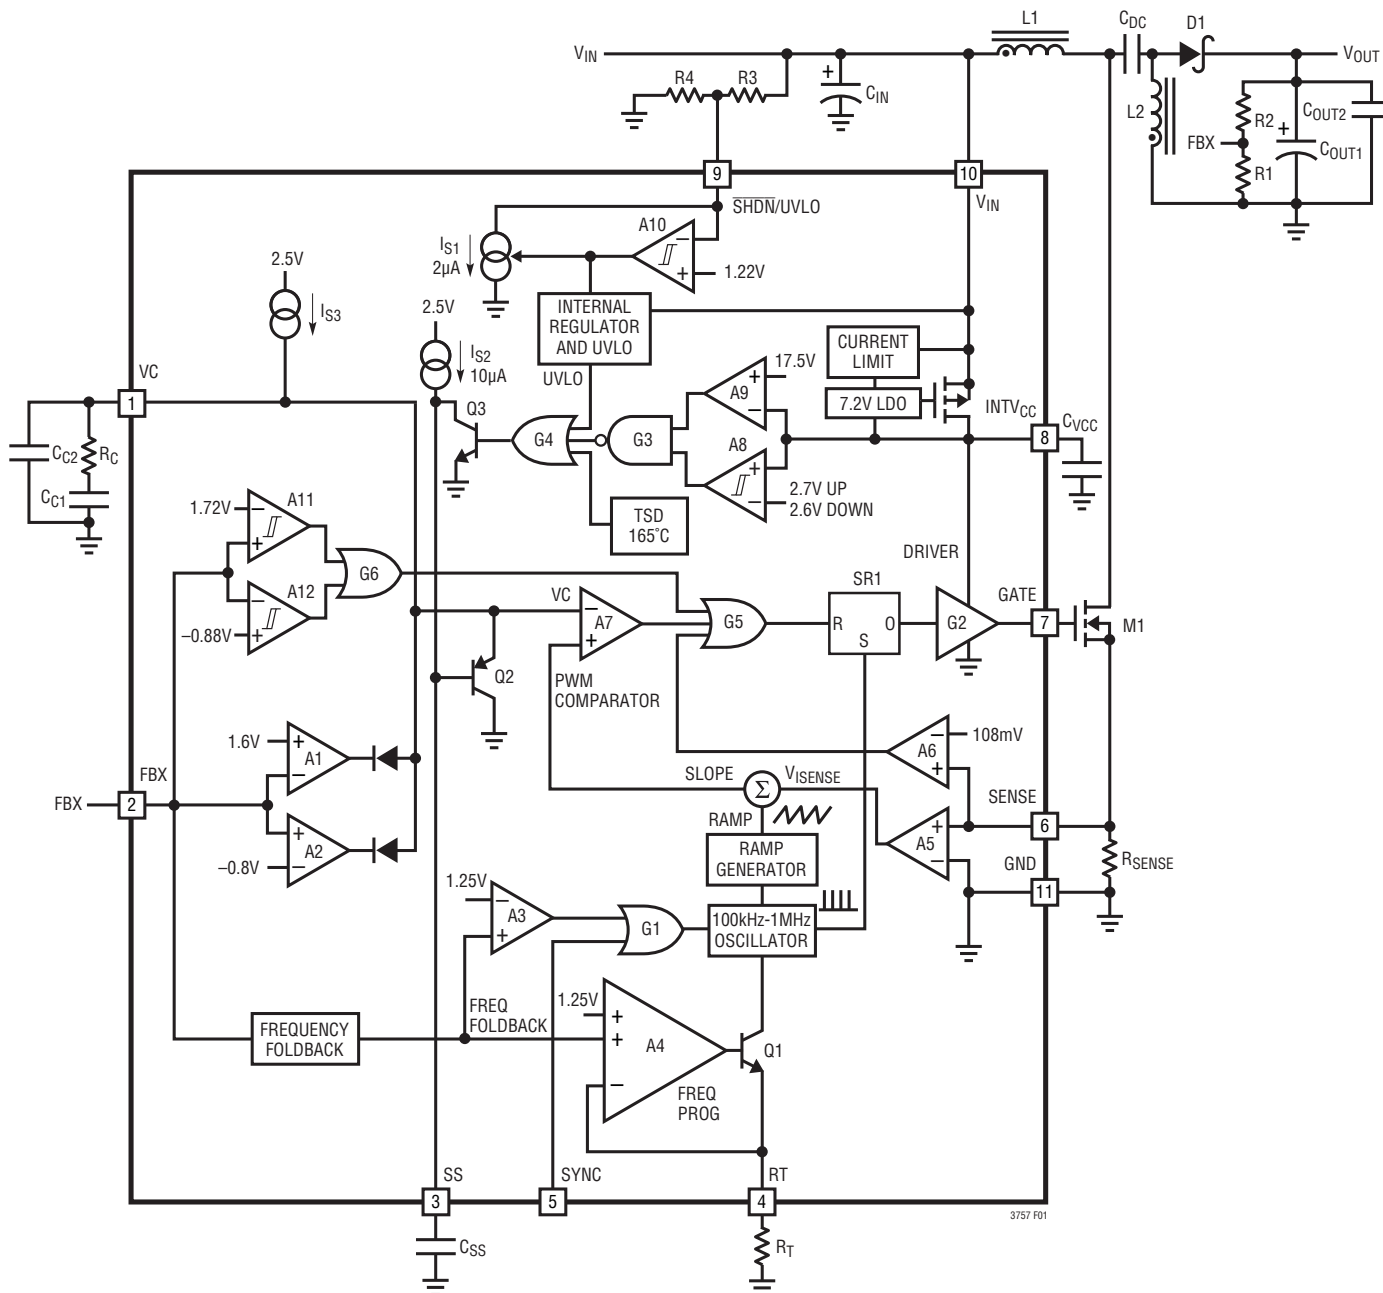

Figure 1. LT3757 Block Diagram Working as a SEPIC Converter
The LT3757 uses a fixed frequency, current mode control scheme to provide excellent line and load regulation. Operation can be best understood by referring to the Block Diagram in Figure 1.
The LT3757 is capable of generating either positive or negative output voltage with a single FBX pin. It can be configured as a boost, flyback or SEPIC converter to generate positive output voltage, or as an inverting converter to generate negative output voltage. When configured as a SEPIC converter, as shown in Figure 1, the FBX pin is pulled up to the internal bias voltage of 1.6V by a voltage divider (R1 and R2) connected from V_{OUT} to GND. Comparator A2 becomes inactive and comparator A1 performs the inverting amplification from FBX to VC. When the LT3757 is in an inverting configuration, the FBX pin
The purpose of this current is to allow the user to program the rising hysteresis. The Block Diagram of the comparator and the external resistors is shown in Figure 1. The typical falling threshold voltage and rising threshold voltage can be calculated by the following equations:
An internal, low dropout (LDO) voltage regulator produces the 7.2V INTV_{CC} supply which powers the gate driver, as shown in Figure 1. If a low input voltage operation is expected (e.g., supplying power from a lithium-ion battery or a 3.3V logic supply), low threshold MOSFETs should be used. The LT3757 contains an undervoltage lockout comparator A8 and an overvoltage lockout comparator A9 for the INTV_{CC} supply. The INTV_{CC} undervoltage (UV) threshold is 2.7V (typical), with 100mV hysteresis, to ensure that the MOSFETs have sufficient gate drive voltage before turning on. The logic circuitry within the LT3757 is also powered from the internal INTV_{CC} supply.
The choice of operating frequency may be determined by on-chip power dissipation, otherwise it is a trade-off between efficiency and component size. Low frequency operation improves efficiency by reducing gate drive current and MOSFET and diode switching losses. However, lower frequency operation requires a physically larger inductor. Switching frequency also has implications for loop compensation. The LT3757 uses a constant-frequency architecture that can be programmed over a 100kHz to 1000kHz range with a single external resistor from the RT pin to ground, as shown in Figure 1. The RT pin must have an external resistor to GND for proper operation of the LT3757. A table for selecting the value of R_T for a given operating frequency is shown in Table 1.
The output voltage (V_{OUT}) is set by a resistor divider, as shown in Figure 1. The positive and negative V_{OUT} are set by the following equations:
The LT3757 addresses this mechanism with the SS pin. As shown in Figure 1, the SS pin reduces the power MOSFET current by pulling down the VC pin through Q2. In this way the SS allows the output capacitor to charge gradually toward its final value while limiting the start-up peak currents. The typical start-up waveforms are shown in the Typical Performance Characteristics section. The inductor current I_L slewing rate is limited by the soft-start function.
component values and the operating conditions (including the input voltage, load current, etc.). To compensate the feedback loop of the LT3757, a series resistor-capacitor network is usually connected from the VC pin to GND. Figure 1 shows the typical VC compensation network. For most applications, the capacitor should be in the range of 470pF to 22nF, and the resistor should be in the range of 5k to 50k. A small capacitor is often connected in parallel with the RC compensation network to attenuate the V_C voltage ripple induced from the output voltage ripple through the internal error amplifier. The parallel capacitor usually ranges in value from 10pF to 100pF. A practical approach to design the compensation network is to start with one of the circuits in this data sheet that is similar to your application, and tune the compensation network to optimize the performance. Stability should then be checked across all operating conditions, including load current, input voltage and temperature.